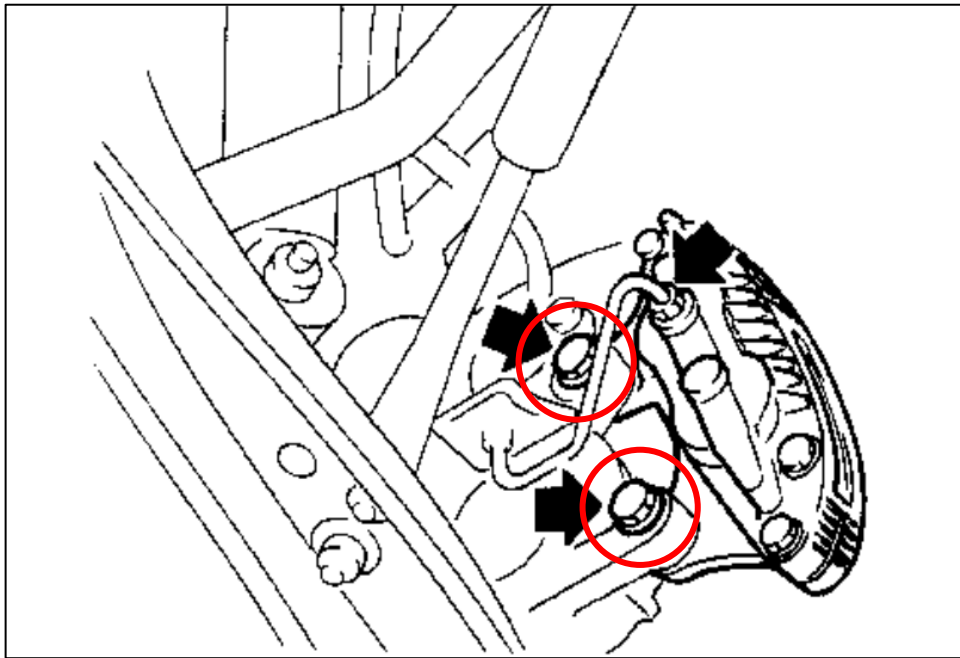

Figure 2
6. Remove the (2) two Caliper Mounting Bolts and remove the Caliper from the vehicle. Retain this hardware. *Figure 2.*